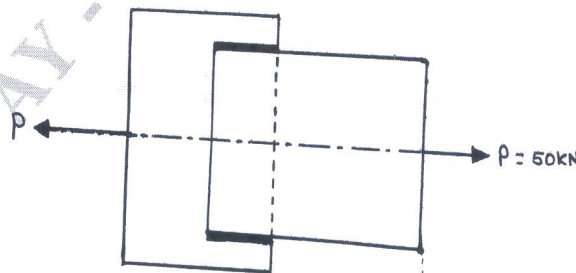

Fig Q8(a)
- 8 a. Two plates are joined by means of fillet welds as shown in Fig Q8(a). The leg dimension of the weld is 10mm and the permissible shear stress at the throat cross-section is  $75 \text{N/mm}^2$ . Determine the length of each weld.